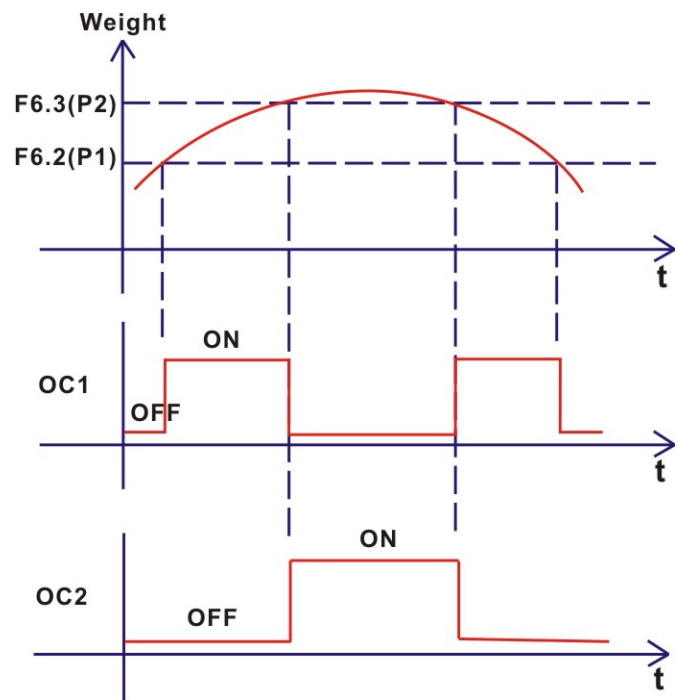

Fig.6-4 Relay Output- Interval
- Interval (F6.1=2): If weight value is lower than the value set in F6.2, both OC1 and OC2 are off; if value set in $F6.2 \leq \text{weight value} \leq \text{value set in } F6.3$, OC1 is on and OC2 is off; if weight value is higher than or equal the value set in F6.3, OC1 is off and OC2 is on. See Fig.6-4.
- (4) When relay output mode is selected, press **【ZERO】** to save and go to the next menu, the display shows “F 6.2”.